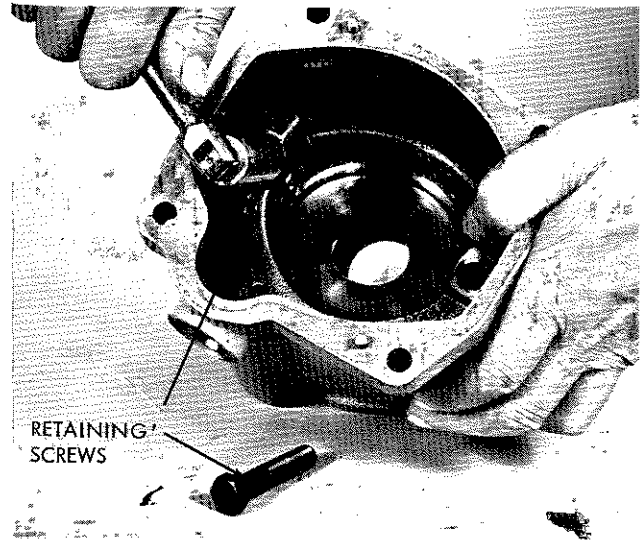

Figure VI-30. Removal of Pintles and Yoke
- a. Remove retaining screws from the yoke (Figure VI-30).
- a. Yoke. Install the yoke in the housing as illustrated in Figures VI-30 through VI-36. Insert the pintles with "O" rings and keys in place, through the housing, into the yoke. Align the holes and install the screws.